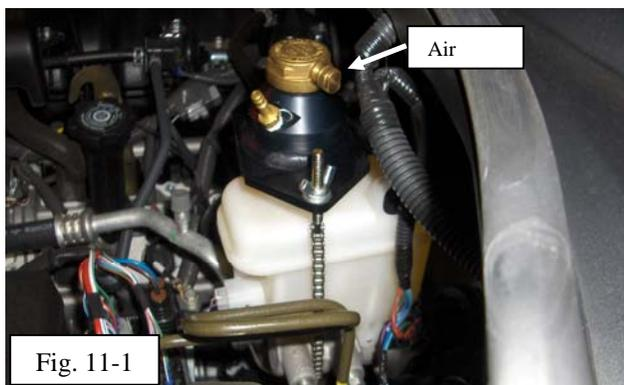

Fig. 12-1
- (b) Attach all four collection vacuum lines to the bleeder screws (Fig. 12-1).